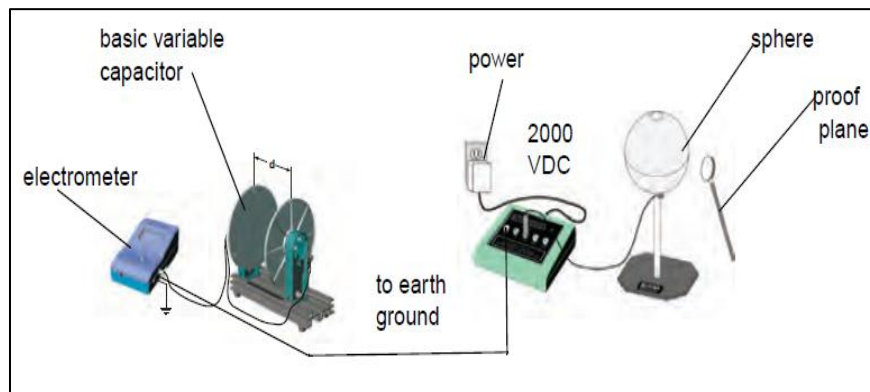

Fig 3.1 : Demonstration Setup
1. Figure 3.1 below shows the equipment set up. The Parallel Plate capacitor is connected to the electrometer. The electrometer is grounded to earth. One of the spheres is connected to the voltage source, set at **2000 VDC**. Take care to place the capacitor sufficiently far away from the sphere and the voltage source, to prevent it from being charged by induction.